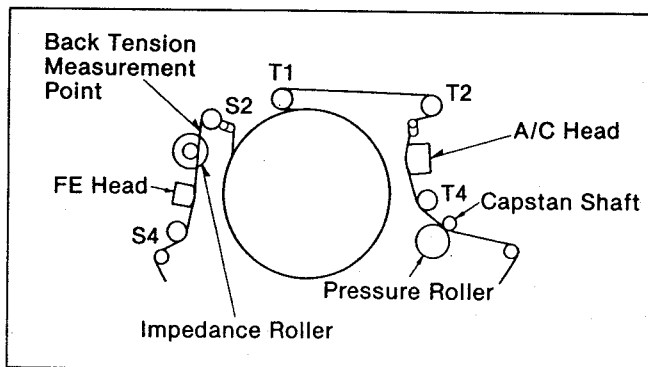

Fig.T1 CYLINDER S1 POST S2 POST BACK TENSION MEASUREMENT POINT. FE HEAD S-REEL TABLE
- (1) Remove the Impedance Roller.
- (2) Insert the cassette tape and playback the tape.
- (3) Insert the tension Meter to Mechanism as shown Fig.T1.